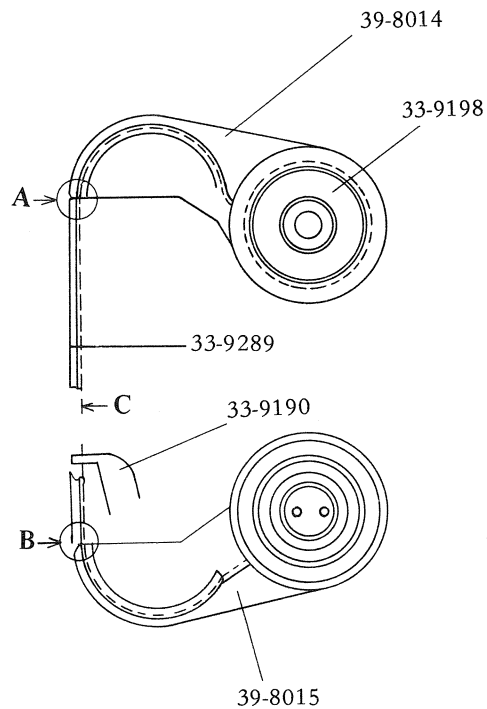
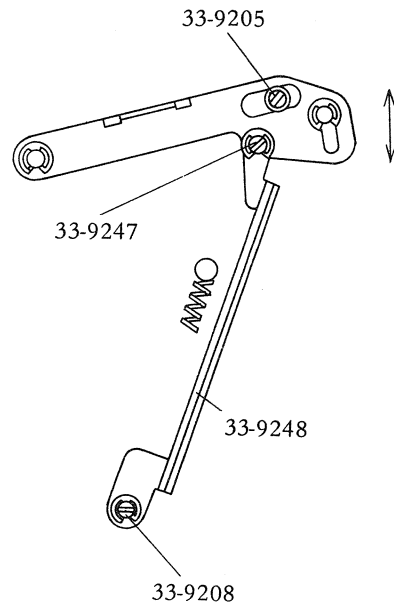

Fig. 5
Fig. 6
Disassembly: Refer to the manual (Fig. 5) and Drawing, Page 5, No. 3. (Fig. 6).
Adjustment: (1) Adjust the position of the 1st film guide by turning the Eccentric Screw (33-9205) (Fig. 6).
(2) Adjust the position of the 2nd film guide by turning the Eccentric Screws (33-9247 and 33-9208) (Fig. 6).
Requirement: Both the 1st and 2nd film guides should be in contact with the "A" and "B" sections of the Film Gate (33-9289)(Fig. 5).
2. With the Claw (33-9190) set to the uppermost position, arrange the film to form a loop of "C" along the Film Guide (39-8014), then set the Sprocket (33-9198) in place. (Fig. 5).
3. With the Claw set to the lowermost position, set the other Sprocket (33-9198) in the same manner (Fig. 5).